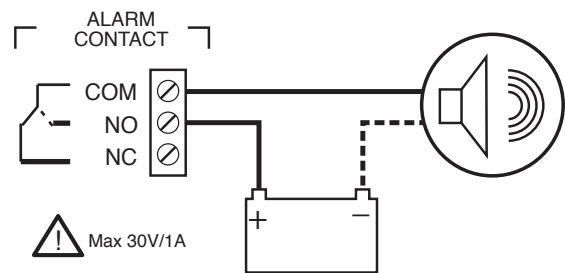

Figure 7-7: Alarm contacts schematic example
See figure 7-7, left part. The three alarm contacts (maximum load 30V/1A) are Common (Com), Normally Open (NO) and Normally Closed NC, see figure 7-7. Refer to section 8.9.5 for alarm contact settings.